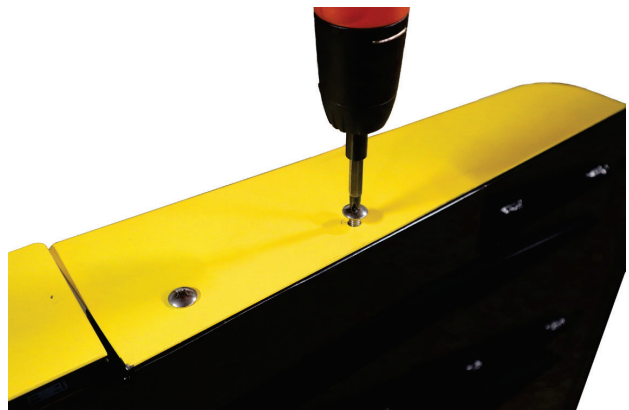

Figure No. 5
Refer to Figure No. 5, then follow the steps below to install the ramp guide rails.
2. Position a ramp guide rail against one side of the ramp. Install two round-head screws through the guide rail and into the ramp, then tighten the screws securely (see Figure No. 5).